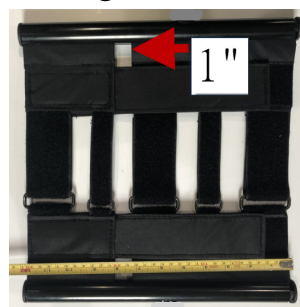

Figure 4.19
4.7.8 Adjust the seat cushion cloth to the front and rear ports, and the seat depth is 12". (See Figure 4.19)